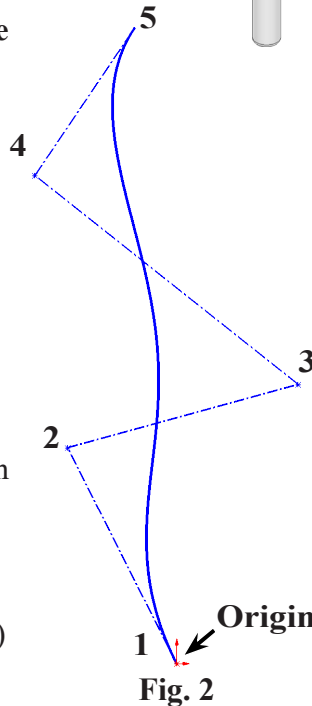

Fig. 2
Step 4. Sketch a **5 control vertex point** **Spline up from the Origin**, **Fig. 2**. Press Escape to end spline.